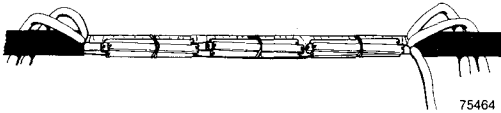

Fig. 86—Completed Three-Module Foldback Splice.
- p. When making Three-Module Foldback Splices bundle while splicing. Splice a group in one position, bundle to core; repeat procedure in another position and fit modules into vacant locations. Splice so that approximately an equal number of modules fall in each of the three positions. See Figure 86.